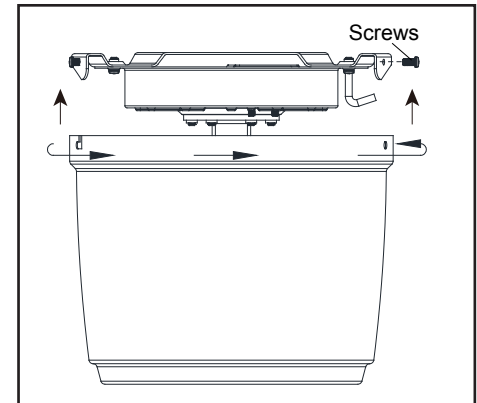

Figure 9
3. Install the two screws that were removed at the beginning of this step into the remaining two holes and tighten the four screws firmly. (Figure 9)